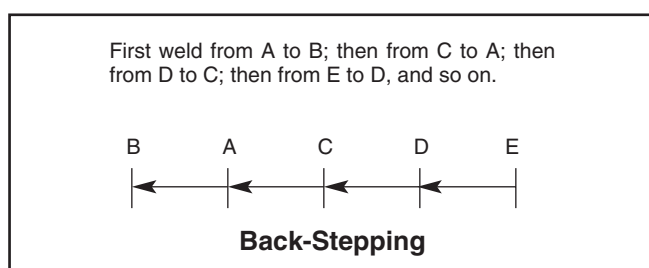

FIGURE B.21
3. When welding sheet metal 16 gauge (1.5 mm) and lighter, heat buildup may cause part warpage and burn through. One way to eliminate these problems is to use the back-stepping method illustrated in Figure B.21.